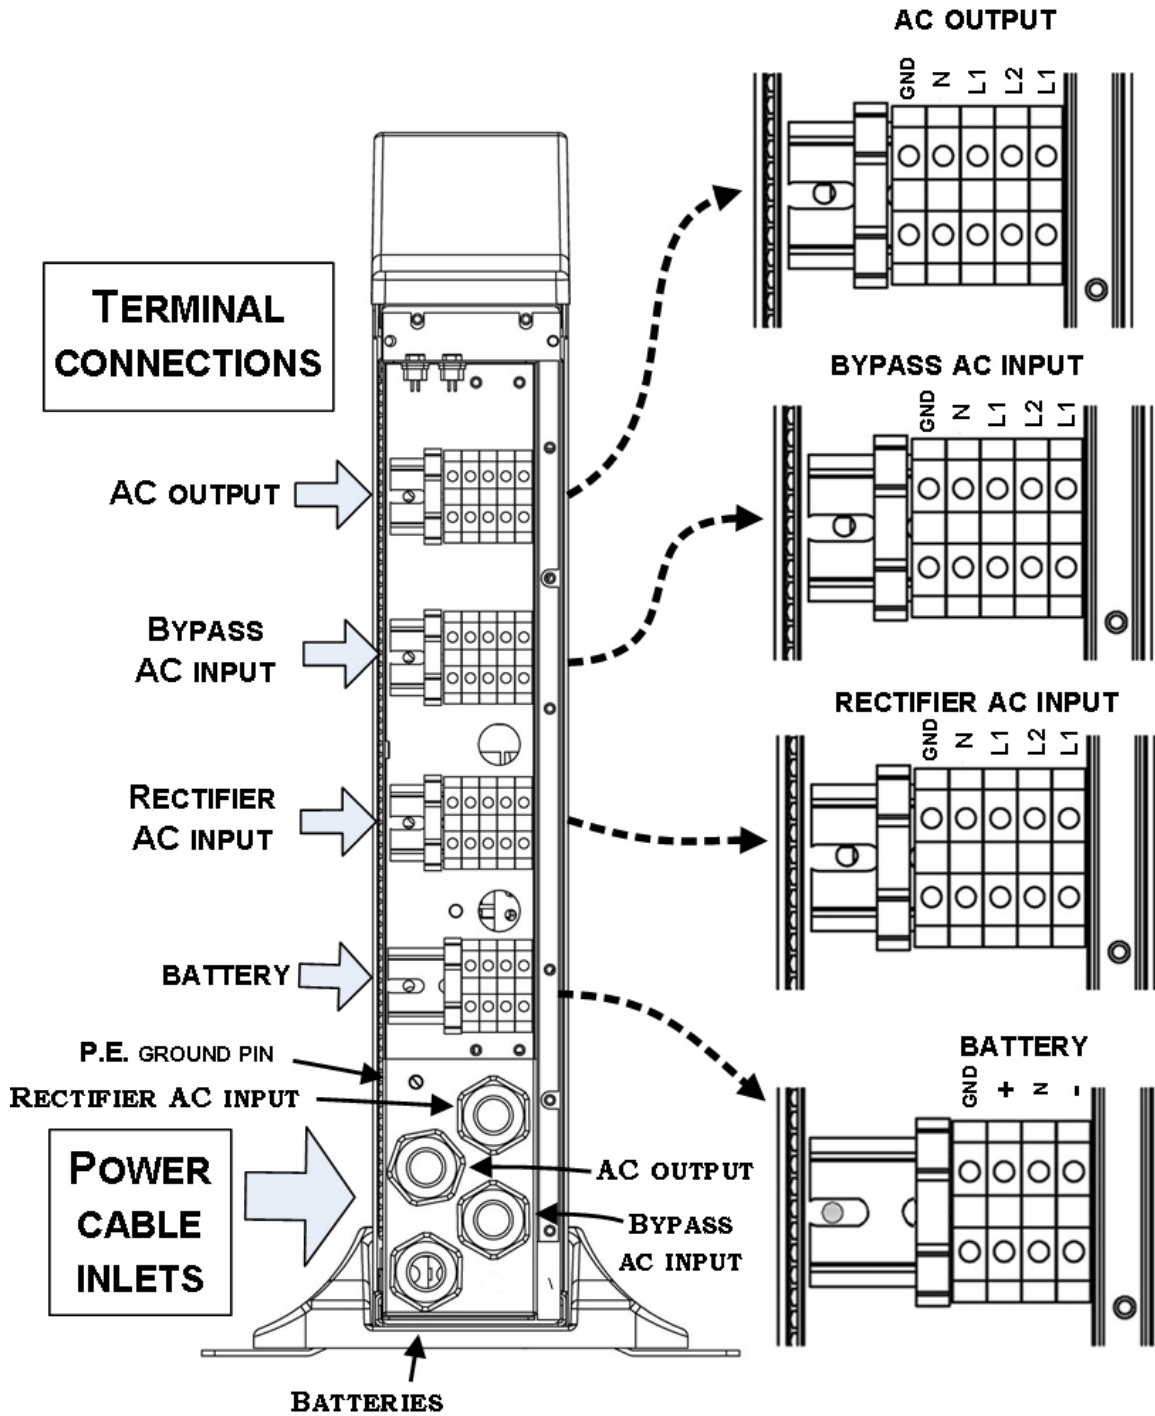

Figure 20-4: UPS rear panel view, with protective cover removed
4. Connect the UPS wiring according to the labeling on the unit, shown in Figure 20-4 on page 86.
5. Run the **AC output cable** through the cable holder labeled “AC output” in Figure 20-4 on page 86. Connect the cable to the AC output terminals, also detailed in Figure 20-4. Use the appropriate grade of wire as specified in Table 15-1 on page 66, or according to local electrical codes.
6. Run the two **AC input cables** through the cable holders labeled “AC input” and “Bypass AC input” in Figure 20-4 on page 69. Connect the cables to their
respective input terminals (“Rectifier AC input” and “Bypass AC input”), also shown in Figure 20-4. Use the appropriate grade of wire as specified in Table 15-1 on page 66, or according to local electrical codes.
7. Run the **batteries cable** through the cable holder labeled “Batteries” in Figure 20-4. Use the appropriate grade of wire as specified in Figure 20-4 on page 66, or according to local electrical codes.